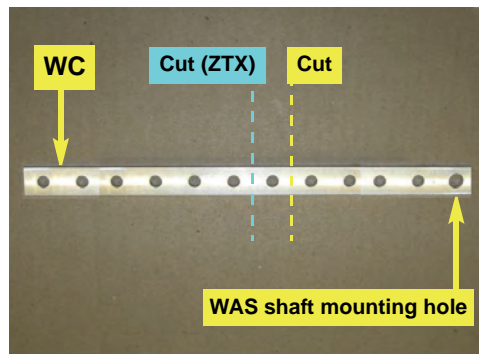

Figure 1b: WAS arm preparation
- For all except ZTX machines, cut seven holes off WAS arm **WC** at the opposite end from the WAS shaft mounting hole (Figure 1b). For ZTX machines cut six holes off.